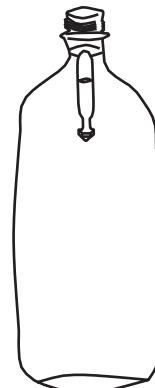

Figure 2.
6. Place the diver assembly in a plastic 2-L bottle filled with water and screw on the cap securely (see Figure 2). Observe how the assembly dives to the bottom as you squeeze the bottle and how it rises to the surface as you release the squeeze.